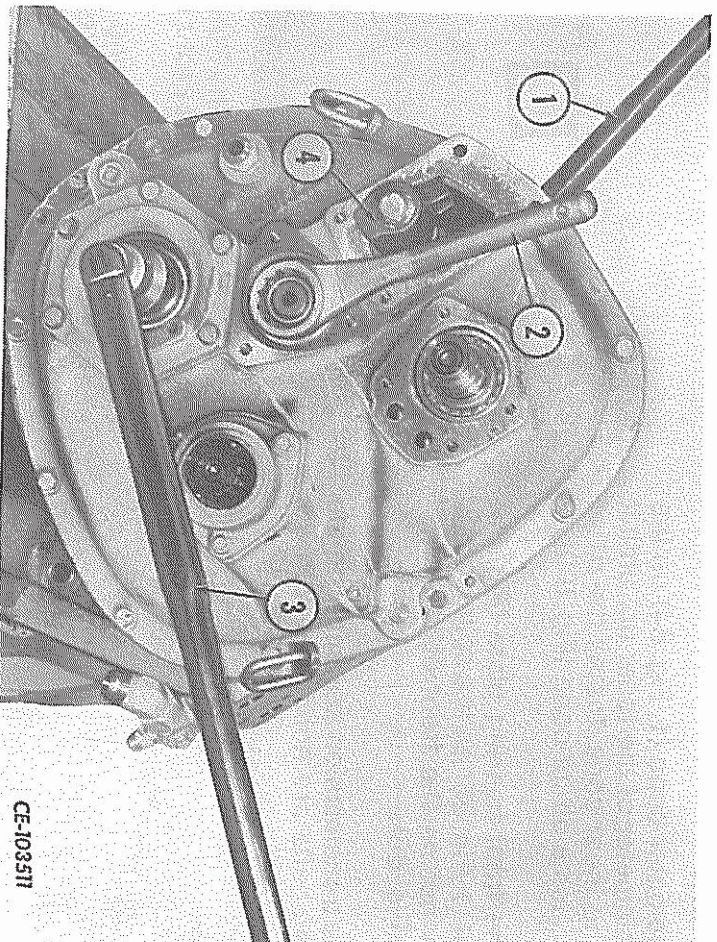

FIG. 87 — Tightening the Pinion Shaft Front Nut
59. Move the hi-lo shifter shaft (4, Fig. 87) into either high or low range. Position a box wrench (2) on the spline shaft nut and lay the wrench handle against the shifter shaft to prevent the spline shaft and pinion shaft from turning. Place the torque wrench (3) on the pinion shaft nut and, using a pry bar (1) to keep the case from rising, torque the nut from 678-745 N.m (500-550 lbf ft). Using this method will apply torque to both the spline shaft and pinion shaft front nuts simultaneously.